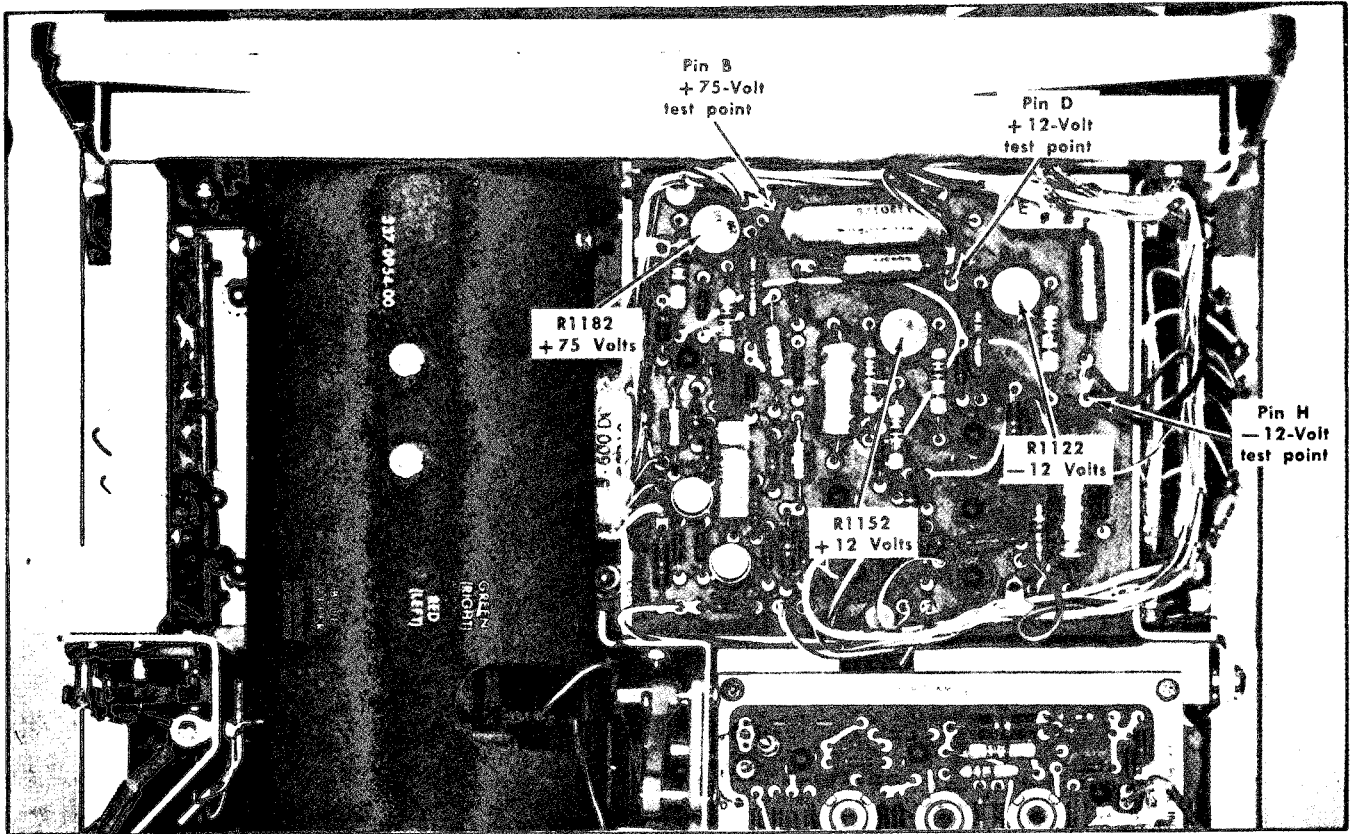

Fig. 6-4. Low-voltage power supply test points and adjustments (Low-Voltage Regulator circuit board).
- b. Connect the precision DC voltmeter from the -12-volt test point (pin connector 'H', Low-Voltage Regulator board; see Fig. 6-4) to chassis ground.
- d. ADJUST- -12 Volts adjustment, R1122 (see Fig. 6-4), for -12 volts.
2. Adjust +12-Volt Power Supply ①
- d. ADJUST- +12 Volts adjustment, R1152 (see Fig. 6-4), for a +1 volt meter reading.
- h. Connect the precision DC voltmeter from the +12-volt test point (pin connector 'D', Low-Voltage Regulator board; see Fig. 6-4) to chassis ground.
- a. Connect the precision DC voltmeter from the +75-volt test point (pin connector 'B', Low-Voltage Regulator circuit board; see Fig. 6-4) to chassis ground.
- c. ADJUST- +75 Volts adjustment, R1182 (see Fig. 6-4), for +75 volts.